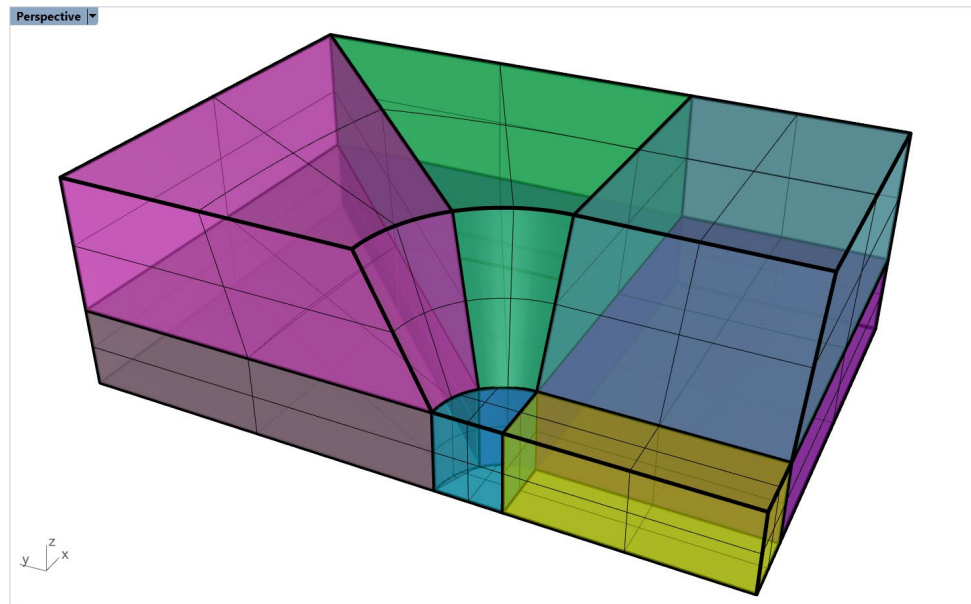

Figure 47: Solid blocks of the model (Ghosted view).
20. Show all blocks that were previously hidden with the **\_Show** command. There should be eight solid blocks as in Figure 47.